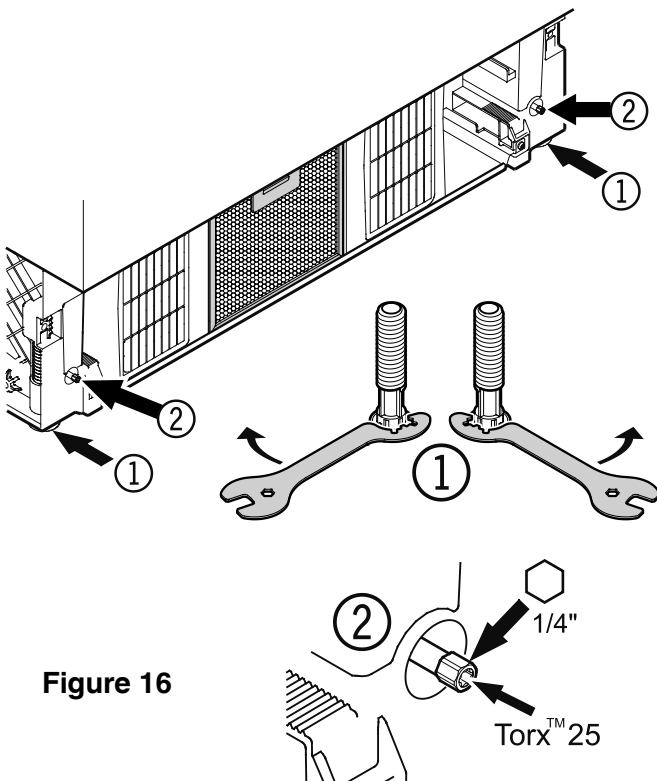

Figure 16
## Leveling the Appliance - Figure 16
1. Adjust the height of the appliance at the front by twisting the leveling feet (1). Use the open-ended spanner provided.
Turn the spanner counterclockwise to raise the appliance front and clockwise to lower it. Position the spanner accordingly (**Figure 16 - (1)**).
2. Adjust the height of the appliance at the rear by turning the adjusting bolts (2). Use a 1/4" box spanner or the Torx 25 wrench provided.
3. Rotate leveling feet (1) until firmly in place against the floor.
To prevent the appliance from tipping forward the leveling feet (1) (**Figure 16**) must have contact with the floor.